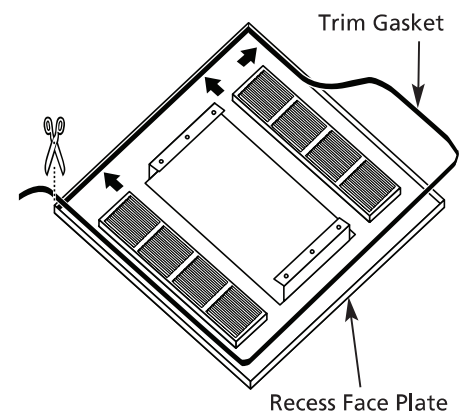

Figure 13
1. Start at any corner and push trim gasket onto inside edge of the recess face plate as shown in Figure 13.